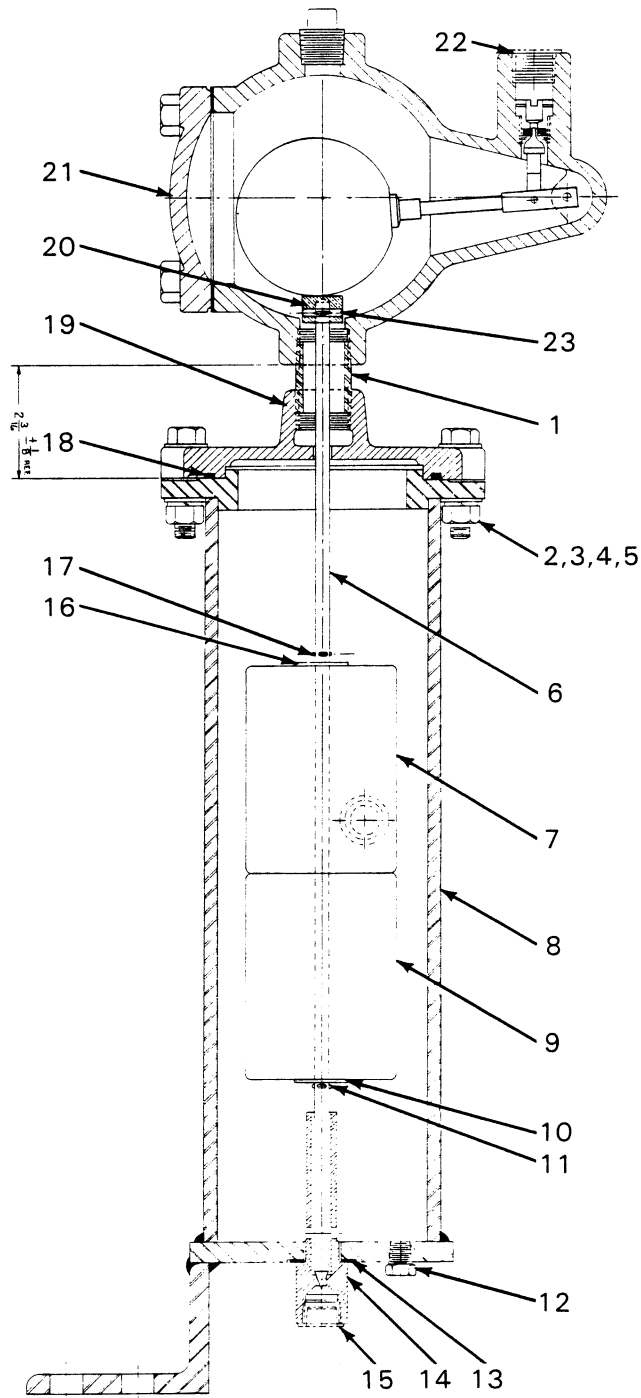

Figure 2. GRP33-06A Air Release Valve
This pump requires little service due to its rugged, minimum-maintenance design. If it becomes necessary to inspect or replace components in and adjacent to the rotating assembly, however, follow these instructions, which are keyed to the exploded view and the sectional view (see figure 1 and figure 2) and the accompanying parts lists.
Remove the drain plug (12, figure 2) to drain the float chamber (8). Clean and reinstall the drain plug after the chamber has been drained. Use Loctite HVV or its equivalent on the threads of the drain plug.
To remove the sump valve (14, figure 2), which is a press fit, pull the valve from the base of the float chamber.